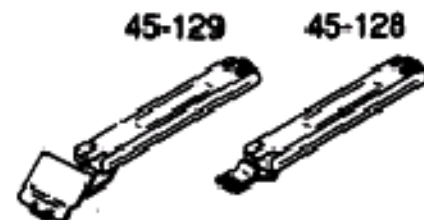

Figure 20. Swivel-Blade Cable Strippers
25. **Swivel-Blade Cable Stripper.** Swivel-blade cable strippers are used for both end or center stripping of coaxial and power cables from 1/4 inch to 1 1/2 inches outside diameter (OD). Strips insulation up to 5/32 inch thick including PVC, rubber, Neoprene, Teflon, polyethylene, Nylon, Kapton, fiberglass, fabric, and others (Figure 20).